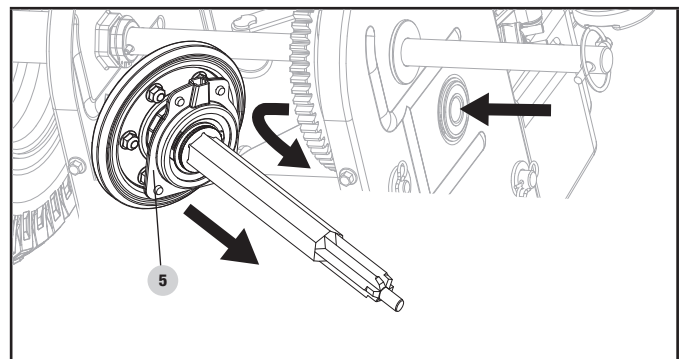

Figure 34B
5. Carefully position the hex shaft downward and to the left before carefully sliding the friction disc assembly (5) off the shaft (Fig. 34B).